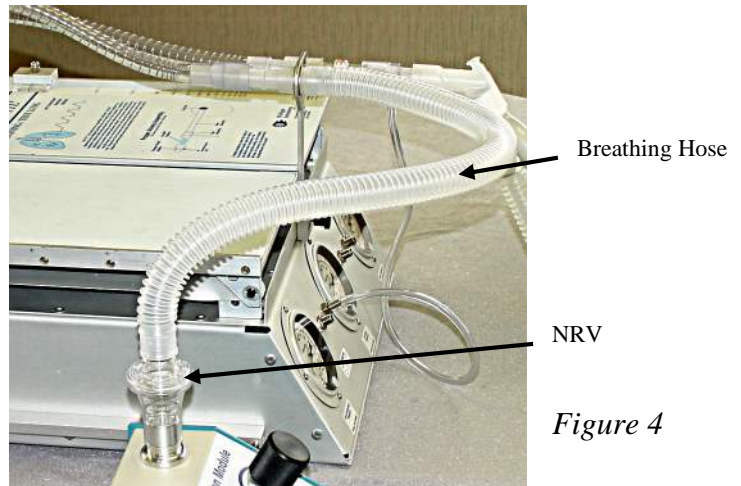

Figure 4
1. Put the *Non-rebreathing Valve (NRV)* on the *Outlet* of the *Breath Simulation Module* as shown in *Figure 4*.
2. Connect one end of the *Breathing Hose* to the *NRV* and the other end to the left side of the *Dual Rest Assembly*. (Figure 4)